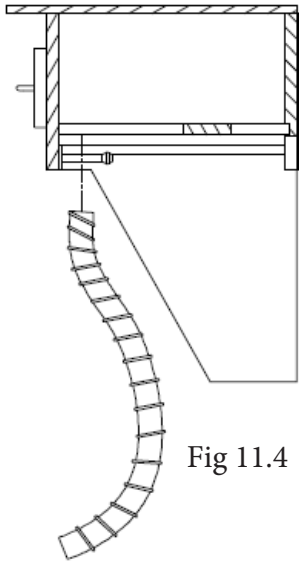

Fig 11.4
1. Refer to Fig 11.4 to review your foot pedal type.
1. Inset Umbilical through Hose Clamp opening (Fig 11.4).